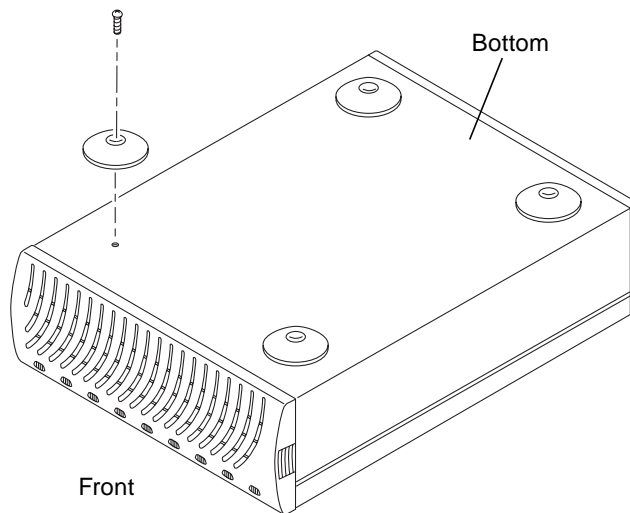

FIGURE 1-1 Removing the Feet
2. Using a Phillips screwdriver, remove the four screws that secure the feet to the disk tray (FIGURE 1-1).